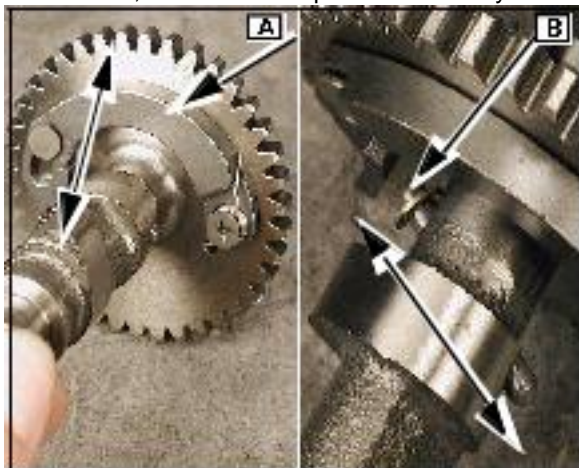

Fig. 4
Rotate the weight (A) against the spring and move the decompression pin ([B] Fig. 4) back and forth. Pin should slide easily through camshaft.